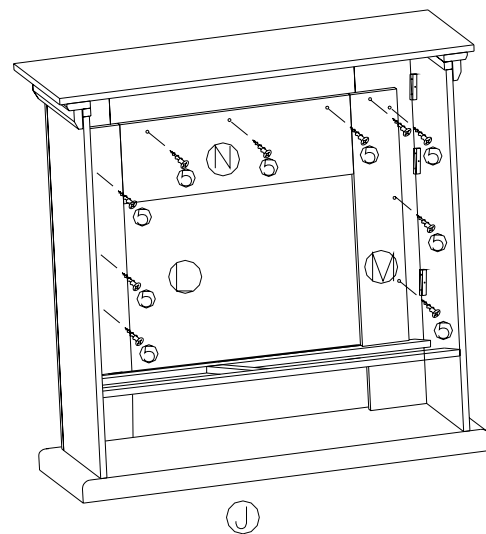

**FIGURE 7**
9. INSERT WOOD DOWELS (1) INTO PREDRILLED HOLES ON ENDS OF MIDDLE BACK PANEL (N) AND FIT INTO CORRESPONDING HOLES ON EDGES OF LEFT AND RIGHT BACK PANELS (M, L). AS FIGURE 7 SHOWN.